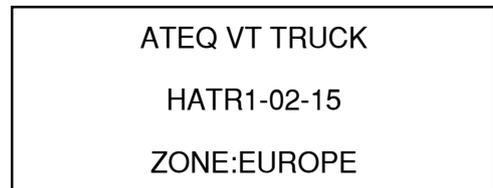

Fig. 1
- The software version is displayed, together with the selected work zone (Fig. 1).